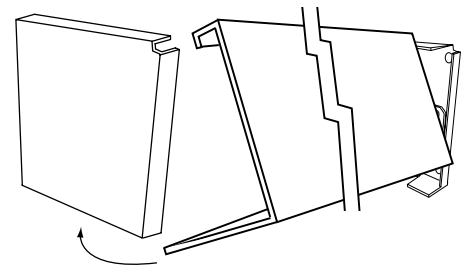

Figure 4
- ① Place groove along top of fascia over endcaps, and snap into place (see Fig. 4).